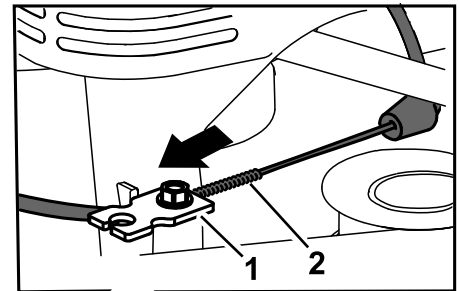

Figure 48
6. Pull the cable jacket to remove slack (Figure 48).